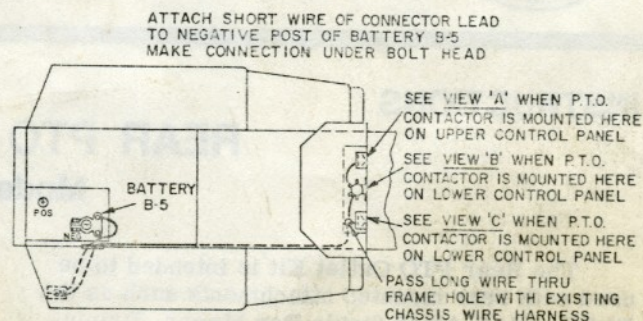

Figure 5
12. Connect the short connector wire to the B5 battery negative (-) terminal as shown in Figure 5.